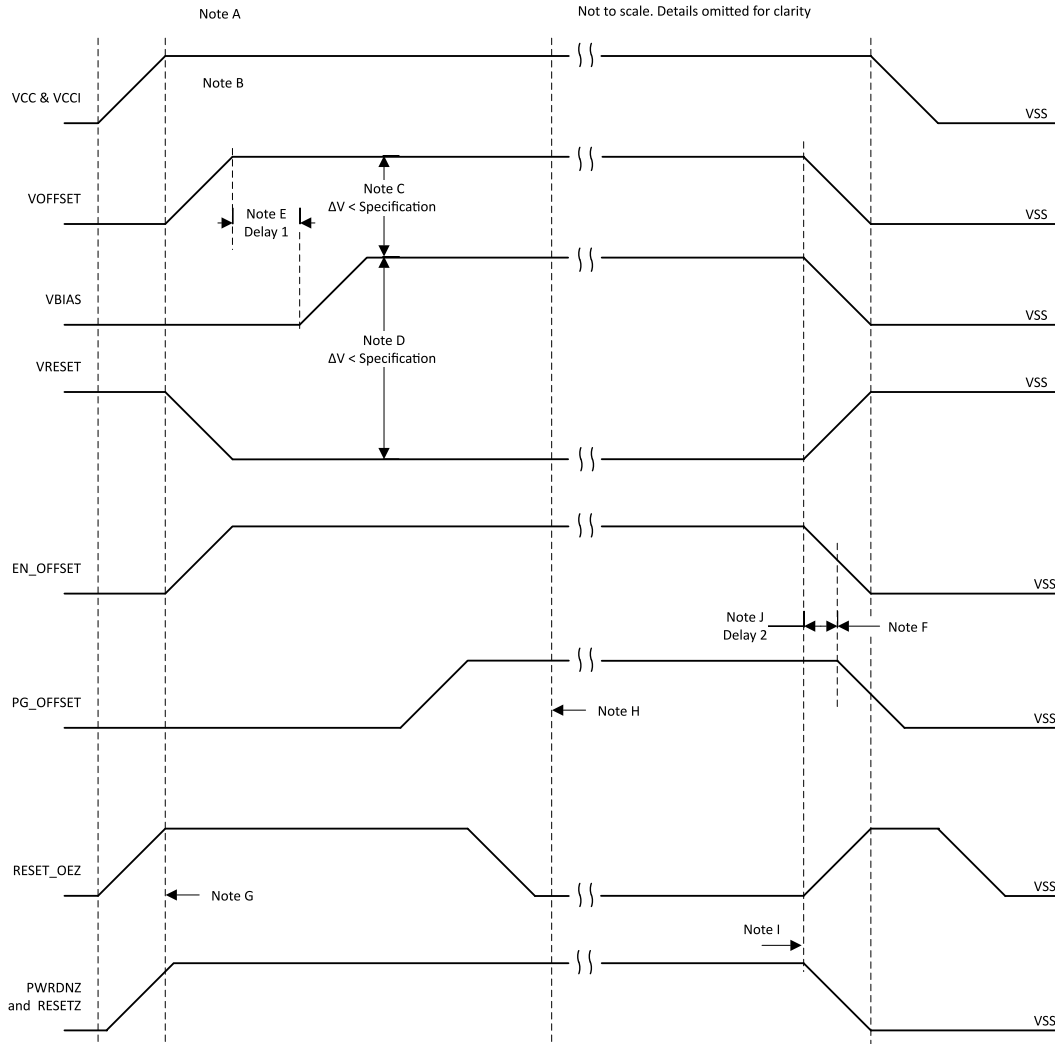

図 9-1. DMD Power Supply Requirements
For reliable operation of the DMD, the following power supply sequencing requirements must be followed. Failure to adhere to any of the prescribed power-up and power-down requirements may affect device reliability. See 図 9-1 in セクション 9.2.
- Power supply slew rates during power-up are flexible, provided that the transient voltage levels follow the requirements specified in セクション 6.1, in セクション 6.4, and in 図 9-1.
- Power supply slew rates during power-down are flexible, provided that the transient voltage levels follow the requirements specified in セクション 6.1, in セクション 6.4, and in 図 9-1.